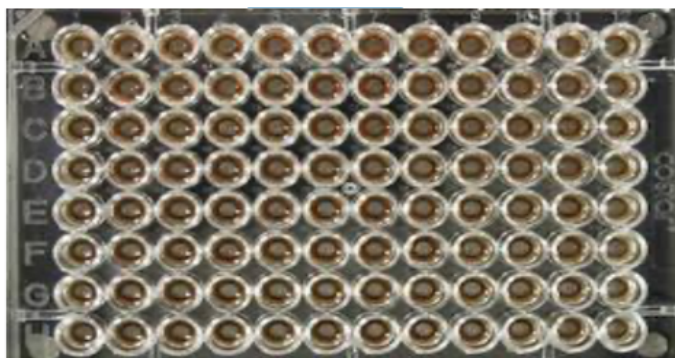

Figure 5: Extraction plate during wash step on magnetic plate.
15. After the 5-minute incubation, remove as much of the supernatant as possible (approximately 400 μ L). Be careful not to disturb or aspirate the beads. See Figure 5.